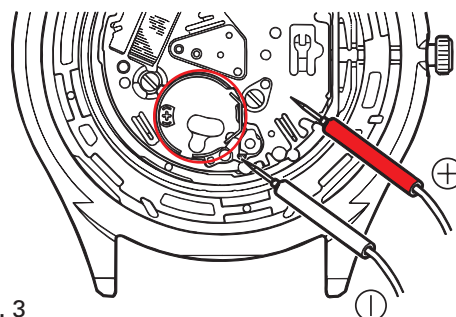

Fig. 3
- 1) Remove the ⑱ RECHARGEABLE BATTERY UNIT from the watch.
- 3) Connect the (-) probe to the (-) input terminal for the ⑤ SOLAR CELL and (+) probe to the ⑳ CIRCUIT BLOCK COVER (as illustrated in Fig. 3).